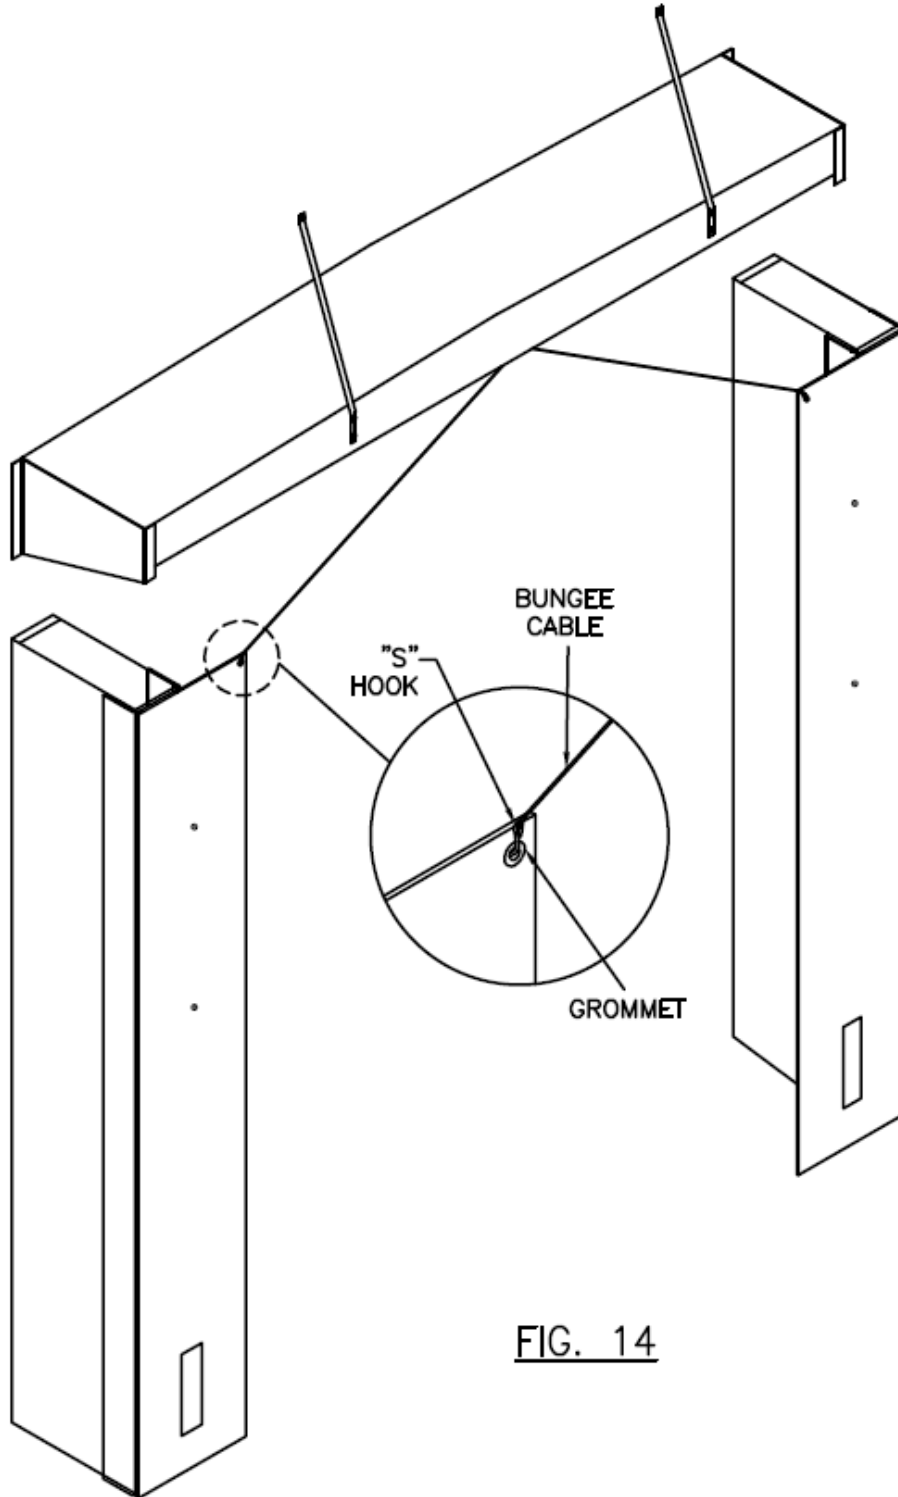

FIG. 14
9. Lastly, attach the Bungee Cables to the Side Curtain Through the Grommets at the Removable Inward Panel by hooking the "S" Hook SEE (Fig.14)